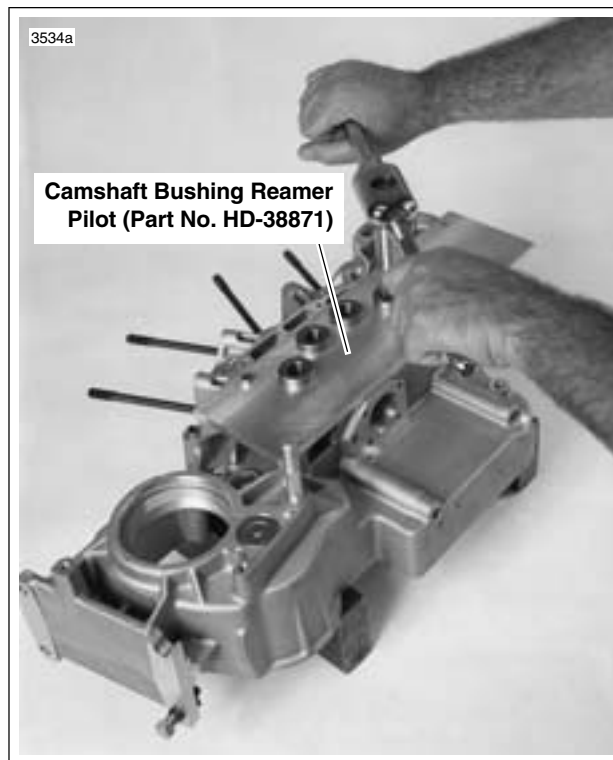

Figure 3-69. Reaming Cam Gear Bushing in Right Crankcase Half
2. See Figure 3-69. Position CAMSHAFT BUSHING REAMER PILOT (Part No. HD-38871) onto gearcase side of crankcase half; upper right and lower left indexing holes in pilot must be placed over dowels in crankcase half. Insert two bolts (supplied with pilot) through two remaining holes in pilot, and into threaded holes of crankcase half. Tighten bolts securely.